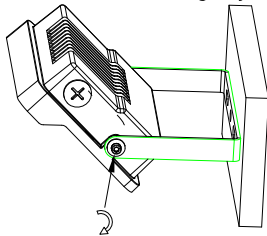

Fig. 3
1. Secure the fixture to wall or floor as shown in Fig. 3.